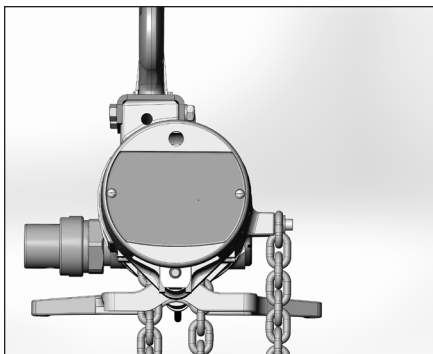
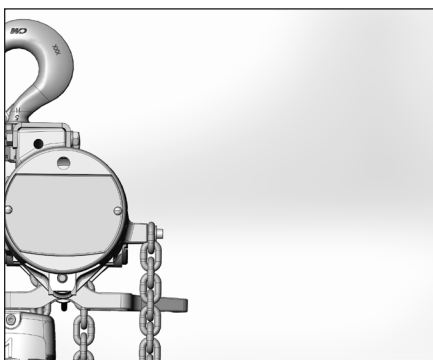

Figure 25 - Installing Single Reeved Load Chain (1/4 and 1/2 Ton Models)
Figure 26 - Installing Double Reeved Load Chain (1 Ton Model)
1. When installing coil chain on the hoist, make sure the weld on the second link faces "out" or away from the sprocket (See Figure 25). Now, with the air off, brake cover removed, and brake shoes locked in "open" position (with wedge between control lever and hoist body), turn brake wheel in "hoist" direction and feed chain in through lever control into chain sprocket. Continue to feed the chain through until approximately 15" to 16" hangs through the tail chain side of the hoist. Take the first link and swing it up (do not twist) (See Figure 25) to the frame boss and fasten in place. The rest of the chain can be pulled through, and then the lower block fastened in place (on single reeved hoist). On double reeved hoist, allow approximately 17" to 18" of chain to hang on the lifting direction side (See Figure 26). Run the lower block assembly onto chain and swing (do not twist) the remainder of the chain up and attach to lug on suspension bracket. Remove wedge from between lever and frame and replace covers.
NOTE: Chain must not be twisted and link welds must be positioned as shown in Figure 26.